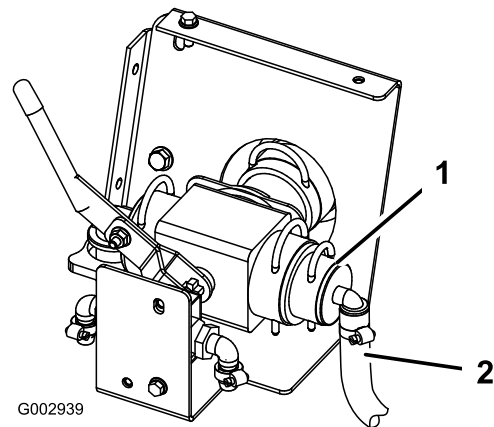

Figure 21
21. Connect the 3/4 inch hose assembly to the control valve assembly facing the vehicle front (Figure 21).